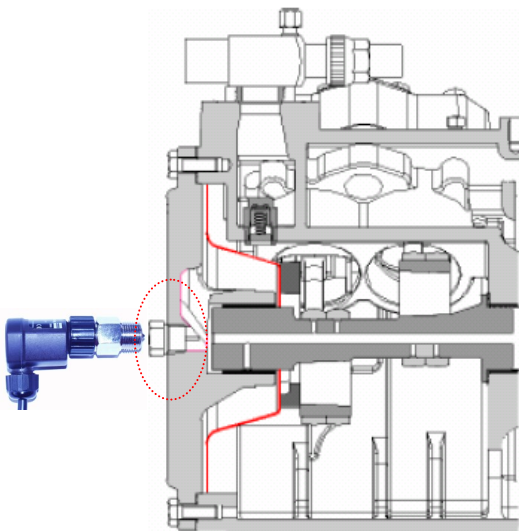

Figure 5.1
2. Remove the M20 center bolt and metal gasket. (Figure 5.1).
4. Install the electrical sensor into the adapter and tighten the coupling ring approximately 10Nm or 7.4ft-lb (Figure 5.1). Pay attention to the position of the lead (cable exit downwards). For wiring directions, refer to the electrical appendix.